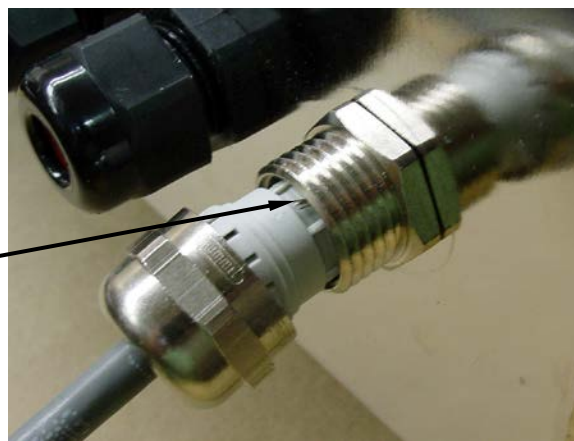

Figure No. 12
14. The shield wire is secured when tightening the gland connector nut. Do not overtighten the connector, but make certain it is snug. See Figure No. 12.